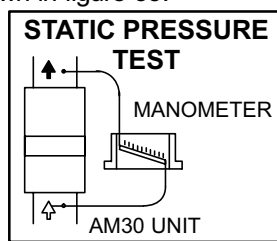

FIGURE 33
- 1- Measure tap locations as shown in figure 33.